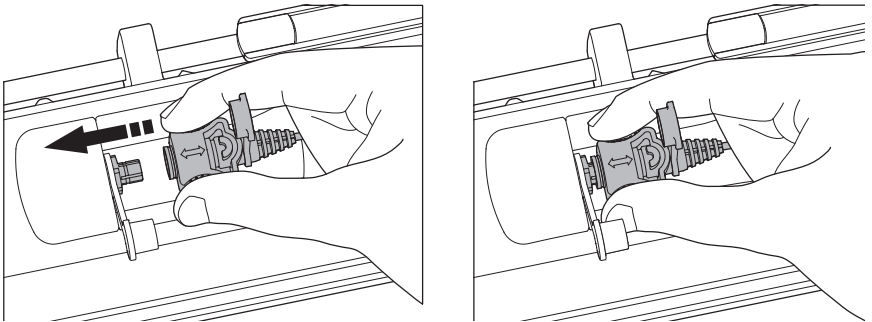

Figure 7: Connecting the Earset
- g.** Undo the dust caps from the Earset plug and Earset socket on the detector. Gently hold the Earset by the rubber collar using thumb and index finger, the raised double arrow should be uppermost (see Figure 7). Align the plug with the Earset socket and firmly slide the collar onto the socket.